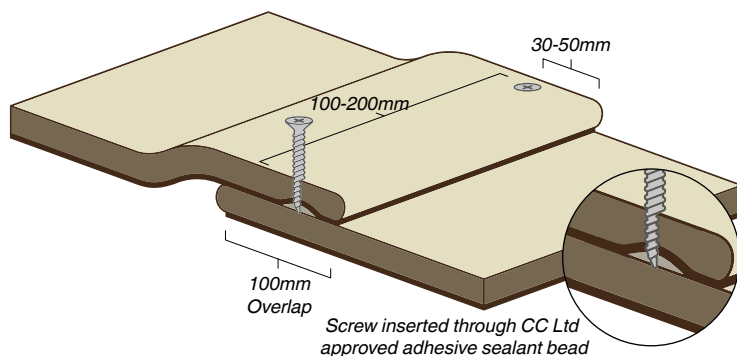

Figure 5.5 Screwed and sealed overlap joint
4. **Installation of Screws:** Once hydrated and sealant has been applied, fold back the top CC layer to ensure both layers are in contact again and the adhesive sealant is compressed. Once hydrated CC has a 1-2 hour working time in ambient temperatures of 10-22°C (reduced in warmer climates) and screws must be applied before setting begins so the concrete within CC will then set around the thread of the screws. The screws should be applied at 200mm spacing (100mm for warmer climates) and 30-50mm from the edge of the CC through the sealant bead where possible to minimise leakage, see Figures 5.5 and 5.6.